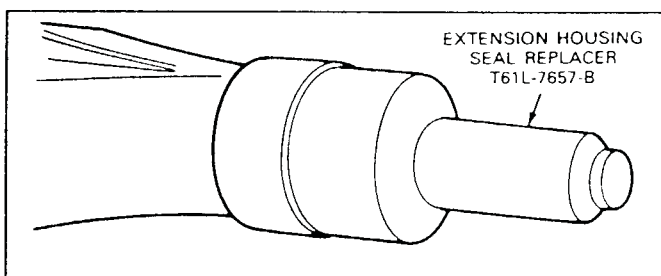

FIG. 14 Installing Extension Housing Seal
4. Install the seal into the housing with Tool T61L-7657-B shown in Fig. 14, or an equivalent. The seal should be firmly seated in the bore. Coat the inside diameter of the end of the seal with Long-Life Lubricant, C1AZ-19590-BA (ESA-M1C75-B) or an equivalent lubricant.